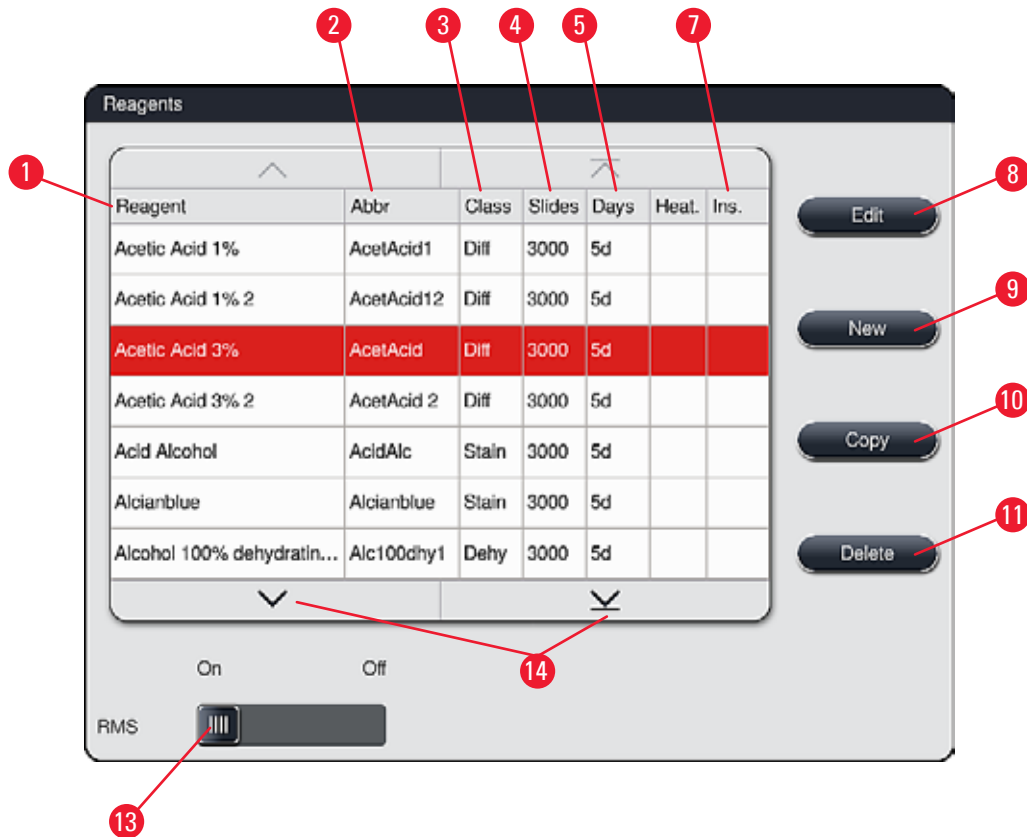

Fig. 36
- Select the reagent to be copied in the reagent list (→ "Fig. 36") by tapping it and press the "Copy" (→ "Fig. 36-10") button.
- Select the reagent to be changed in the reagent list (→ "Fig. 36") by tapping it and press the "Edit" (→ "Fig. 36-8") button.